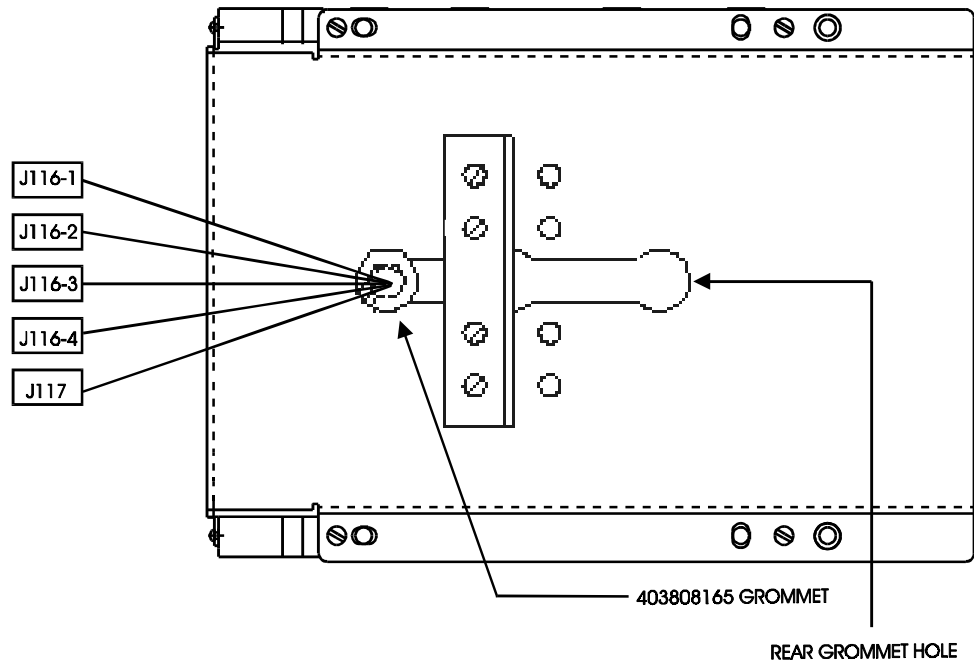

Figure 2-8. Right Side of the J1C182BC-1, List 3 Remote Terminal Ring Shelf
8. Move the cable grommet and cable to the grommet hole located nearest the rear of the ring shelf. See Figure 2-8.